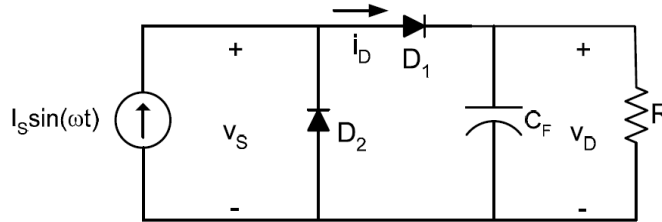

Figure 3.1 A half-wave rectifier driven from a sinusoidal current source
1. Figure 3.1 shows a half-wave rectifier driven by a sinusoidal *current* source supplying a capacitively-filtered output. (Such a configuration is sometimes found in resonant dc-dc converters.) Determine the power factor seen by the current source, assuming that the diodes act ideally and capacitance C_f is large enough such that the output voltage has small ripple ($v_D \approx V_D$).